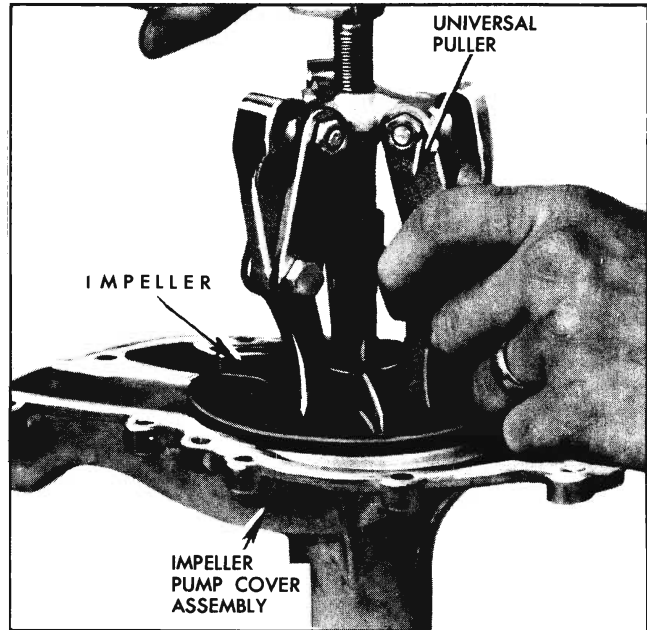

Fig. 6A-17 Pulling V-8 Water Pump Impeller
1. Pull impeller from pump shaft using care to avoid any end thrust on bearings (Fig. 6A-17).